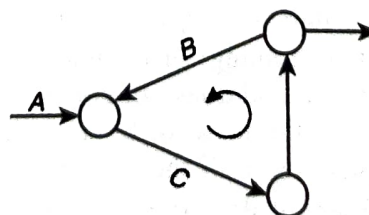

Fig. 25.2. Closed loop
1. *Looping*. If an activity were represented as going back in time, a *closed loop* would occur as shown in Fig. 25.2 :